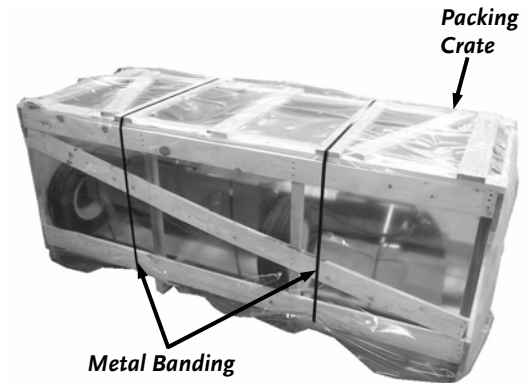

Figure 2
1. Cut the metal banding and remove the protective plastic covering, top, sides and ends, of the packing crate (**Figure 2**). Do not remove the base unit or the rail assembly from the bottom pallet at this time.